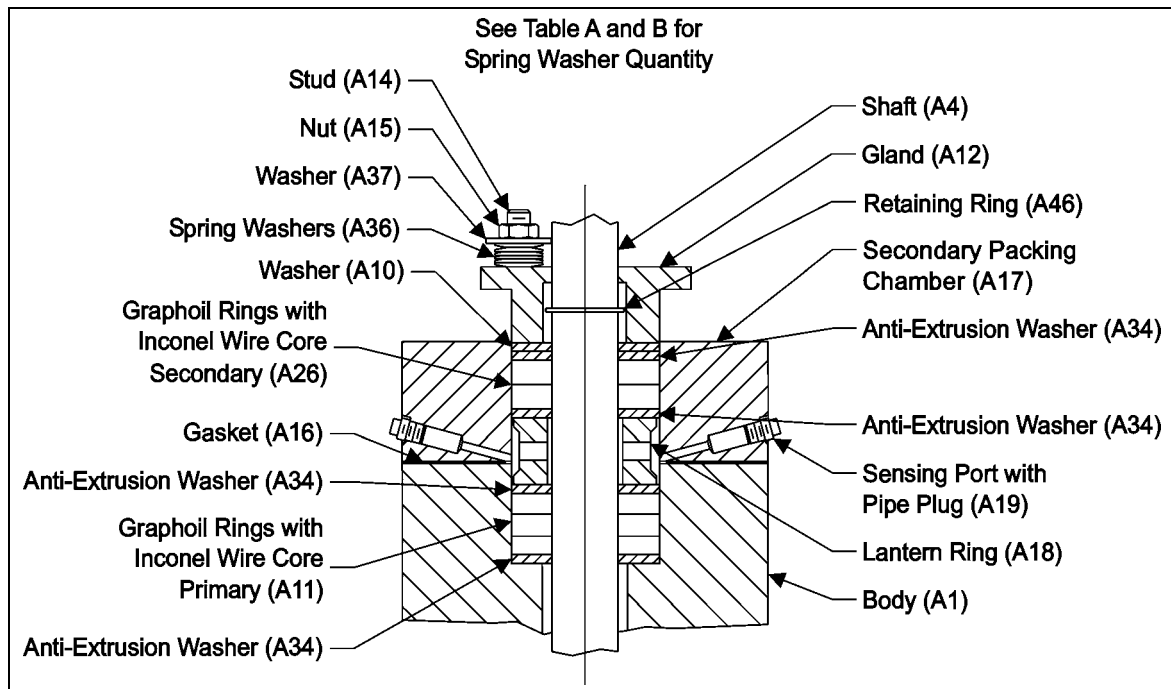

Figure 10 — Packing Option (G2DL)
- b. Place the following components in the configuration shown in Figure 10: